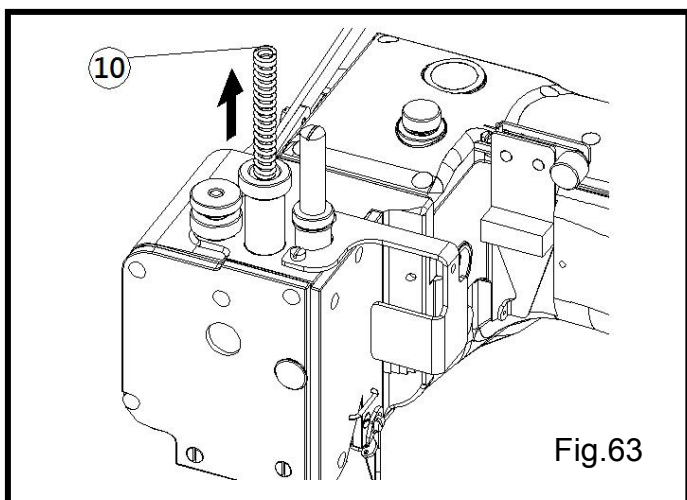

Fig.63
- (7) 推開上勾針驅動片 ⑪ 從帶動桿 ⑫ 脫離。(Fig.63)
- (8) 向左轉，拆下整組壓腳穿過左邊壓腳檔。
- (7) Remove the carrier/hook driving segment ⑪ from the lever ⑫ on the carrier/hook driving sleeve. (Fig.63)
- (8) Turn the presser foot, c.set to the left and remove it through the presser foot guides(left)and(right).